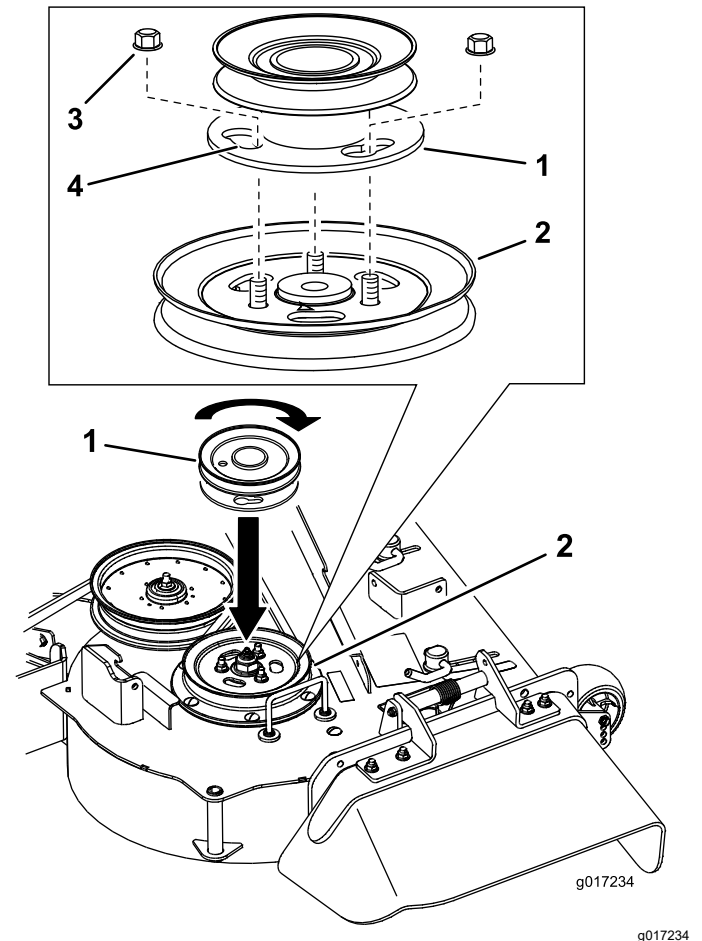

Figure 12
1. Remove the nuts on the existing mower-deck pulley (Figure 12).
2. Install the new pulley assembly onto the mower-deck pulley bolts (Figure 12).
3. Turn the pulley to lock it into position (Figure 12).